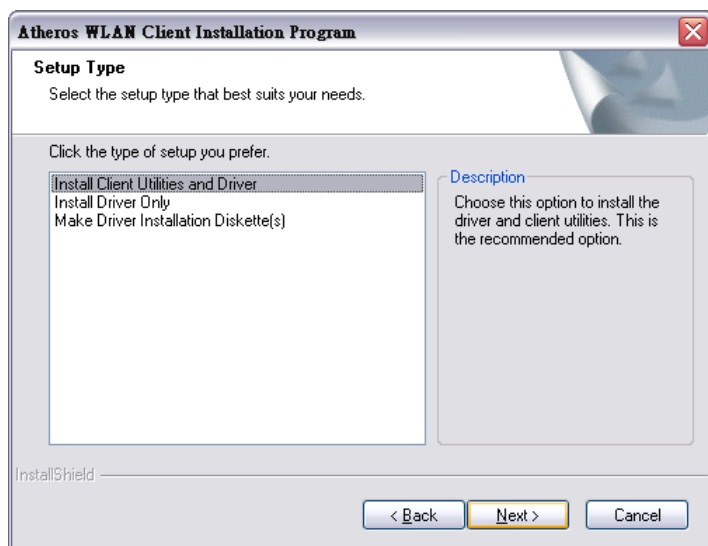

Figure 6-32: Wireless Driver – Setup Type 2
Step 7: The window in **Figure 6-32** appears. Select **Install Client Utilities and Driver** in **Figure 6-32** and click **Next** to continue.